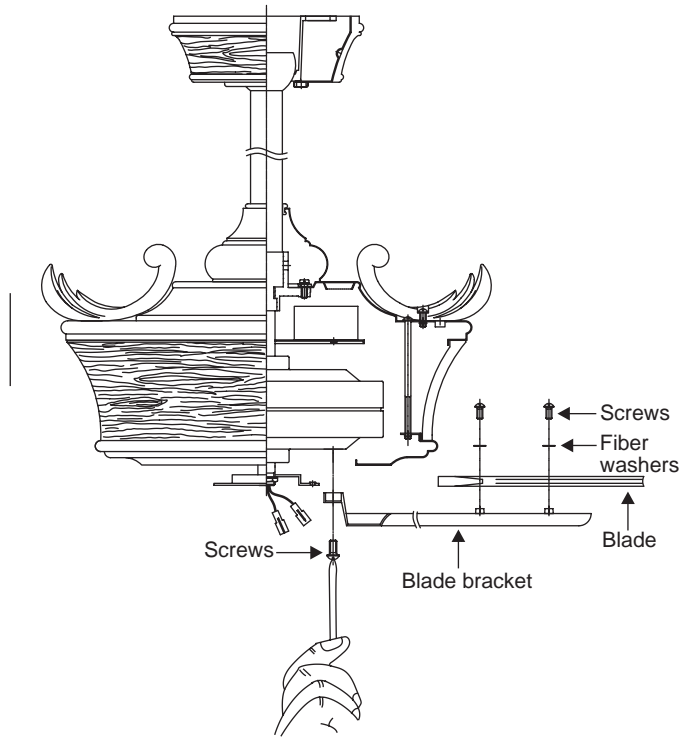

Figure 14
Step 1 Attach the blade to the blade bracket using the screws and fiber washers as shown in Figure 14. Start screw into bracket. Repeat for the two remaining screws.
Step 3 Fasten blade assembly to motor using the screws supplied. (Fig. 14)